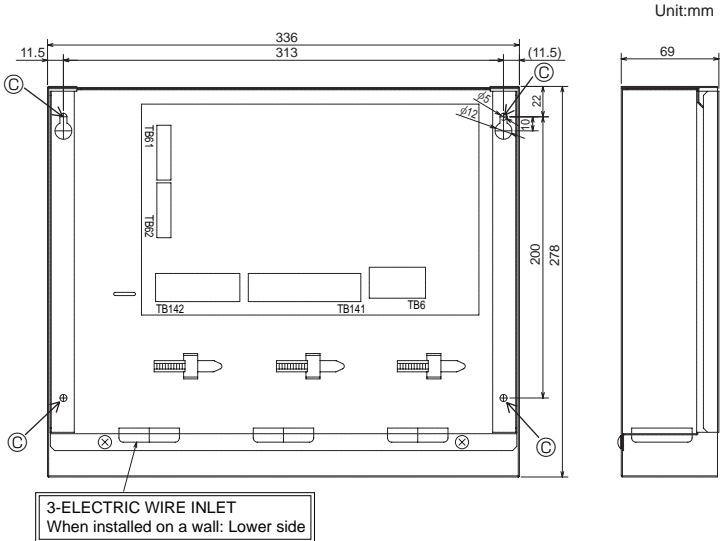

Fig.2-2
2.3. Installing the interface unit (Fig. 2-2, Photo.2-1)